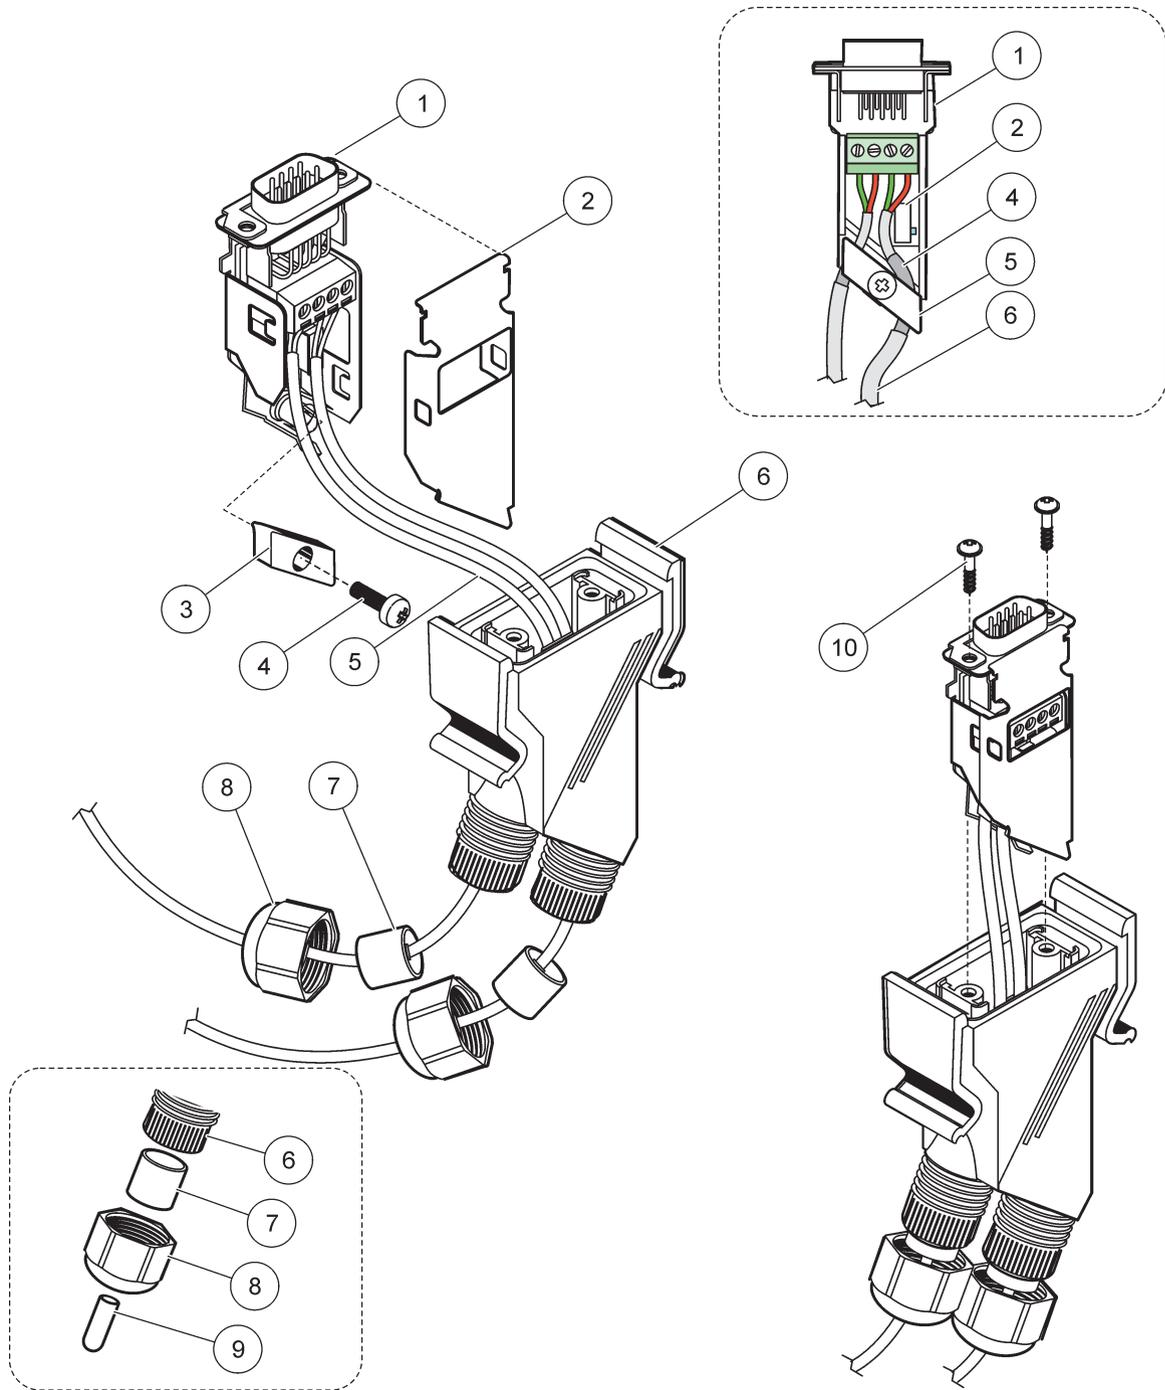

Figure 31 Connecting the network connector to the SC1000 network terminating resistor
2. Feed the cable through the union nut, rubber seal, and connector housing (Figure 31).
- Note:** When using the connector with the last module on the network segment, one union nut remains unused. Seal the union nut with the plug supplied. Refer to Figure 31.
2 Use this plug if the cord grip is not used, refer to inset in Figure 31.